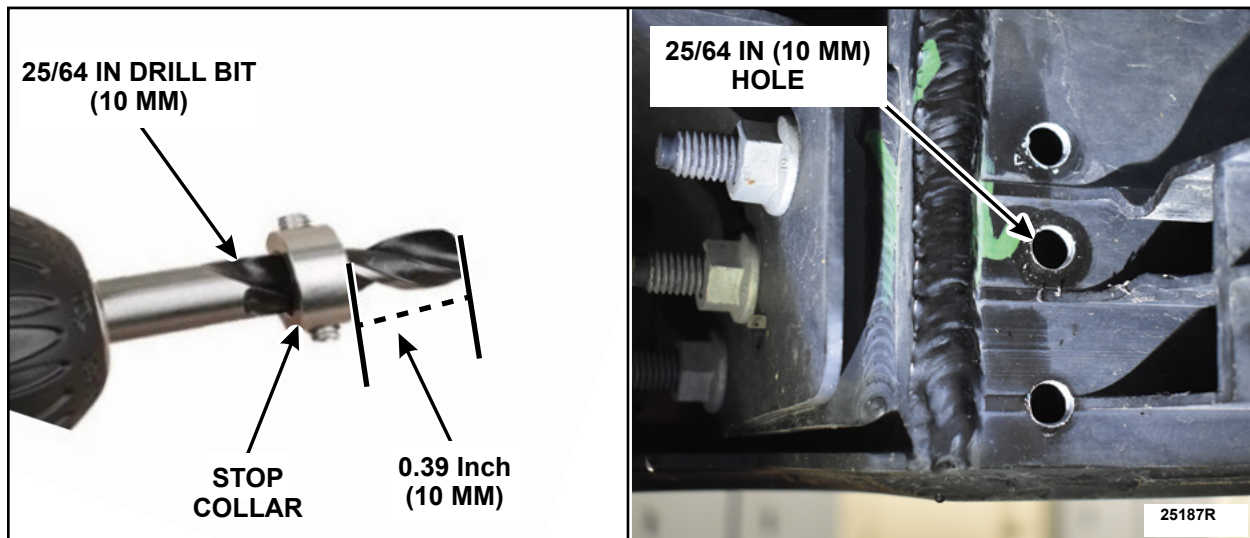

FIGURE 19
7. Using a 25/64 in (10mm) drill bit, apply a stop collar at a depth of 10 mm (0.39 in) and drill out the pilot holes. See Figure 19.